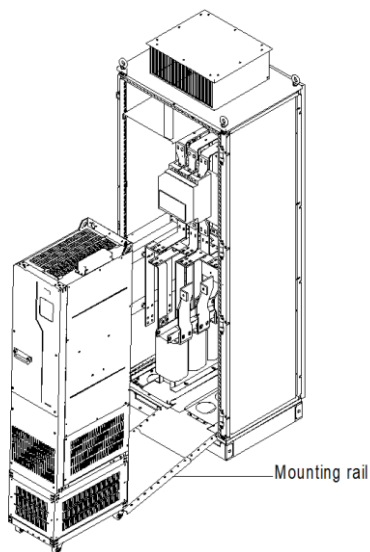

Figure 4-15 Aligning the VFD casters with the mounting rail
- ✧ The VFD can be pushed into or out of the cabinet only after the casters are aligned with the rail. To ensure safety, arrange two people to push the VFD into or out of the cabinet. See Figure 4-15 and Figure 4-16.
4	Arrange two people to align the VFD casters with the mounting rail and push the VFD to the cabinet. (See Figure 4-15 and Figure 4-16. Use the auxiliary rope for mounting to prevent the VFD from side tipping during the push-in or push-out.)